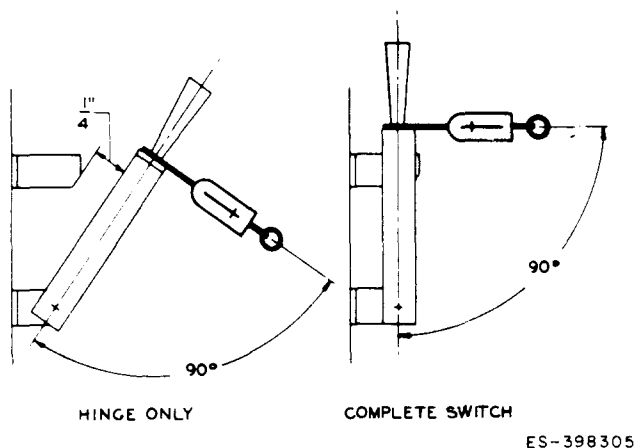

Fig. 4—Measurement of Contact Pressure
*2.08 Contact Pressures (Fig. 4)